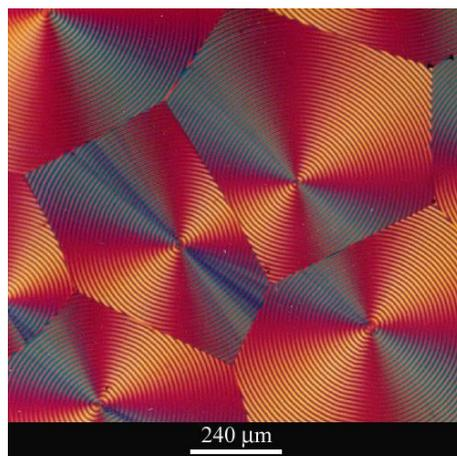

Figure 4: Spherulites in poly-3-hydroxy butyrate (PHB)
- Homogeneous nucleation - this is the case for a pure polymer, e.g., virgin PP and the result is a small number nucleation sites and a few large crystals as seen in Figure 4.